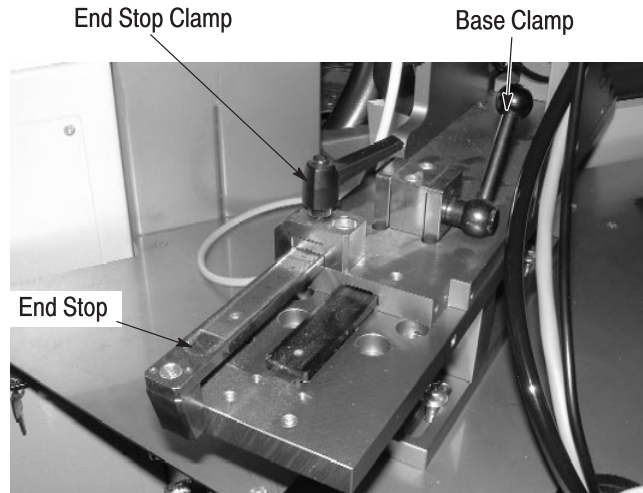

Figure 3
2. Install the PAWO SLU-N on the base unit by engaging the T-shaped slot over the guide rail on top of the base unit. See Figure 3.
3. Assemble the end stop onto the rear of the bottom plate of the SLU-N as shown in Figure 3.
The end stop should be partially extended as shown in Figure 3.
4. Make sure that the SLU-N will not interfere with the closing of the guards. Tighten the base clamp (shown in Figure 3) to prevent the SLU-N from moving.